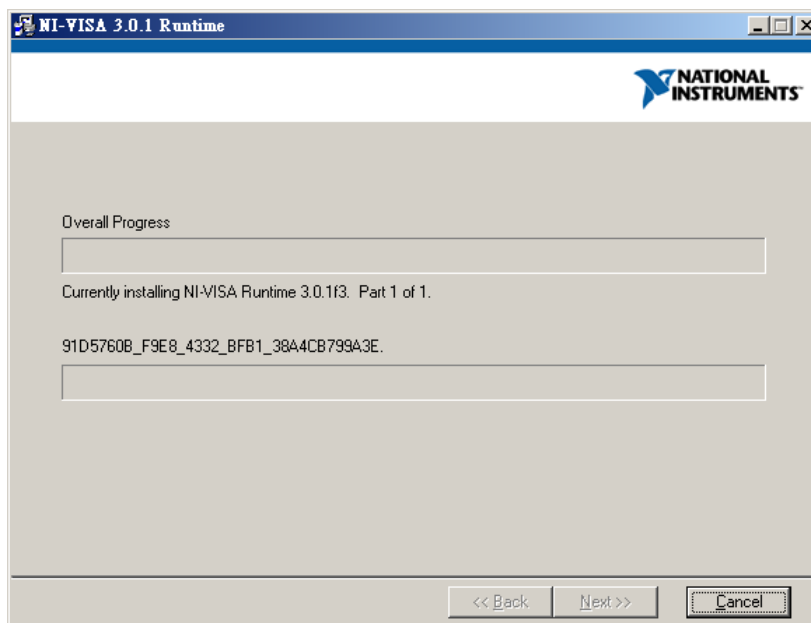
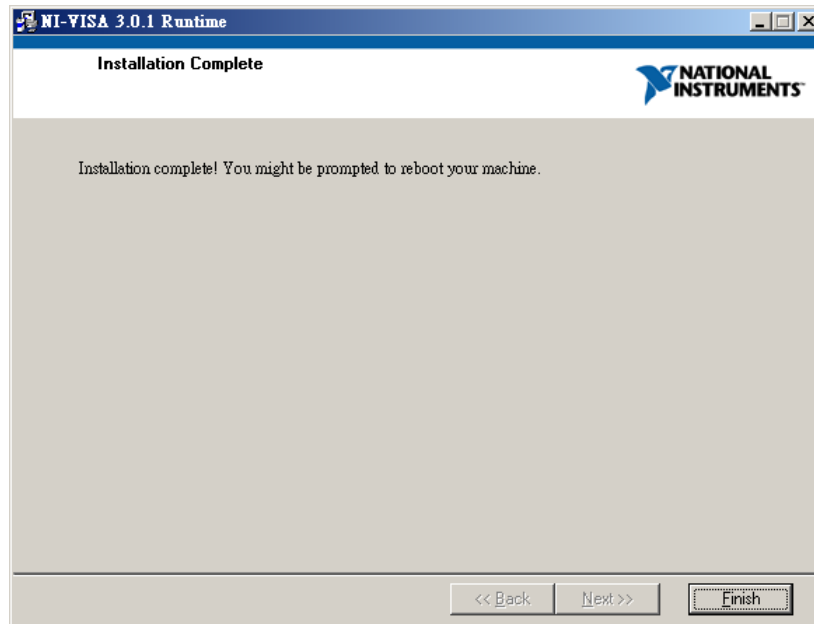

Figure 2-14 NI VISA Installation Progress
Figure 2-15 NI VISA Installation Complete Screen
7. Figure 2-14 shows the installation progress of NI VISA and if any mistake is found, click **Cancel** to stop the installation. Figure 2-15 prompts when the installation is done. Reboot the PC when the NI VISA is successfully installed.